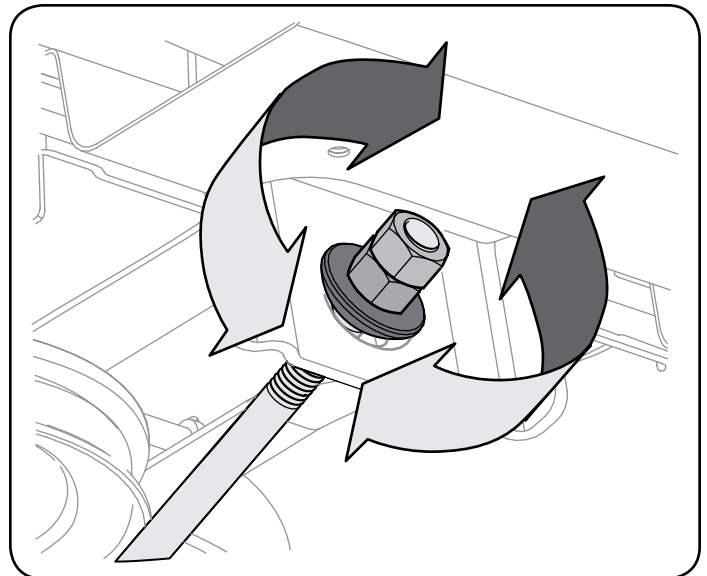

Figure 20
4. To raise the front of the deck, loosen the outer nut then tighten (thread inward) the nut against the front hanger bracket. See Figure 20. When proper adjustment is achieved, re-tighten the outer nut to 25-30 ft.-lbs.
5. To lower the front of the deck, loosen the outer nut then loosen (thread outward) the nut, away from the front hanger bracket. See Figure 20. When proper adjustment is achieved, re-tighten the outer nut.